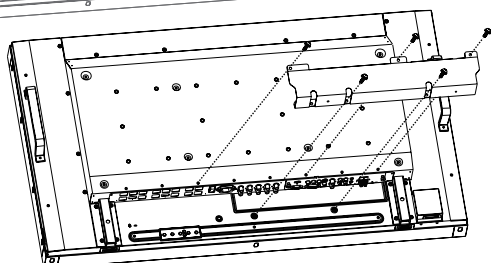

Figure 7
- Use five of the M4 x 10 screws (included) to attach the cable cover (Figure 7).